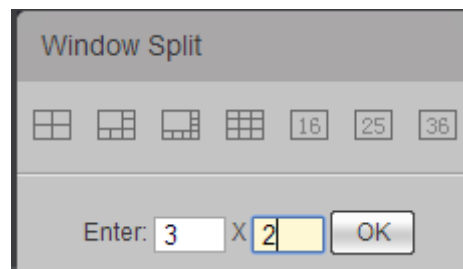

Figure 4-18
Step 1 Select a window and click . The system displays “Window Division” interface, as shown in Figure 4-18.